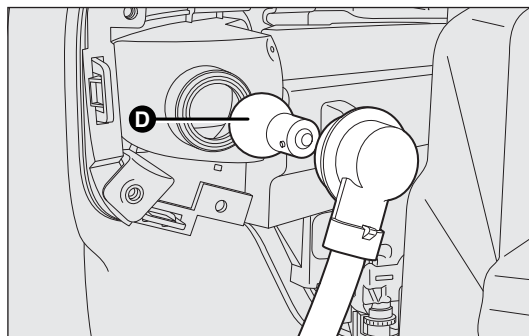

fig. 171
- remove the bulb D-fig. 171 by pushing it in gently and turning anti-clockwise (“bayonet” clamping), then replace it;